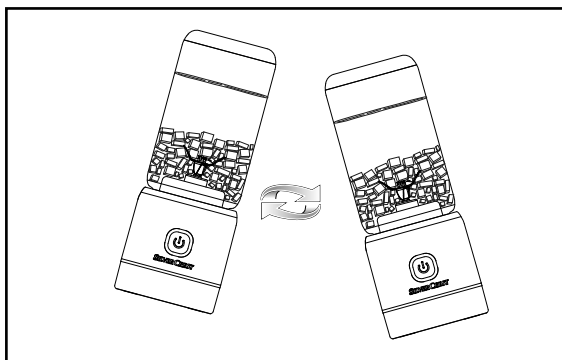

Fig. 1
- 4) To distribute the ingredients better, you can move the appliance while it chops the food. To do this, hold the appliance in your hand and make sweeping back and forth movements with it (see Fig. 1). Make sure that the blender jug ④ does not come off the motor unit ⑨.
- ① **Note:** If the cross blade ⑤ is blocked, the indicator light ⑧ lights up alternately 5 times red and 5 times white. Carefully loosen the stuck parts, e.g. using a fork, and restart the appliance. The indicator light ⑧ lights up white again.
- 6) If you want to stop the chopping process before the appliance is finished, press the On/Off button ⑦ once. The appliance stops working immediately.
- 7) Once the chopping process is finished, hold the appliance so that the opening of the blender jug ④ faces upwards and the cross blade ⑤ on the motor unit ⑨ faces downwards. Unscrew the motor unit ⑨ by turning it anticlockwise.
- 8) You can also use the blender jug ④ as a drinking cup. For transport or storage in the refrigerator, use the supplied lid ①.
- ① **Note:** Consume the drink as soon as possible after preparation. Do not store the freshly prepared smoothie for longer than 6 hours, as small chopped ingredients can spoil quickly.